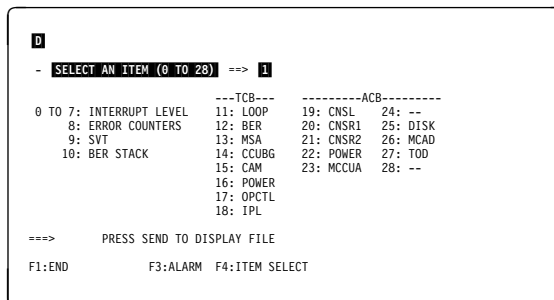

Figure 6-3. MOSS Dump Area Selection Screen
1. Select the MOSS dump file (CHGDMP) in "Dump Display Function Selection" on page 6-2 (see Figure 6-3).